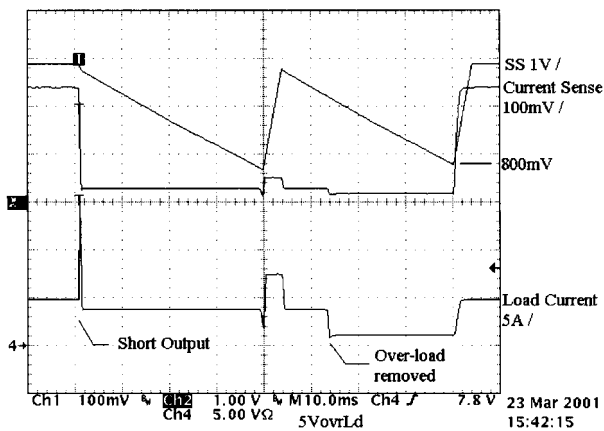

Figure 10. Over-Load Current and Soft Start Waveforms
A typical overload scenario is shown in Figure 10. The top trace is the voltage on the Soft Start (SS) pin. The initial high discharge rate can be seen transitioning to a 40 ms discharge period. During this period the  $I_{SET}$  establishes a lower current limit level. The bottom trace shows the output current. The initial current spike is the output capacitors discharging. The next level around 4.0 A is the short circuit current level set by the  $I_{SET}$  current. The output then turns off allowing the current to reduce to a level that does not cause overcurrent pulses. This releases the SS pin to ramp back up. During ramp up, the output is still shorted as noted by the 8.0 A current level. When SS reaches the 2.9 V level, the short is again recognized and  $I_{SET}$  is turned back on shifting the short circuit current level.